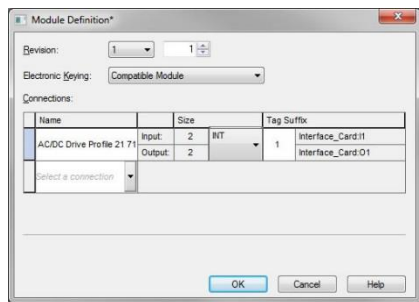

Figure 33: AOP AC/DC Drive Profile Module Definition
- Configure the AC/DC Drive Profile connection. Refer to Figure 33.